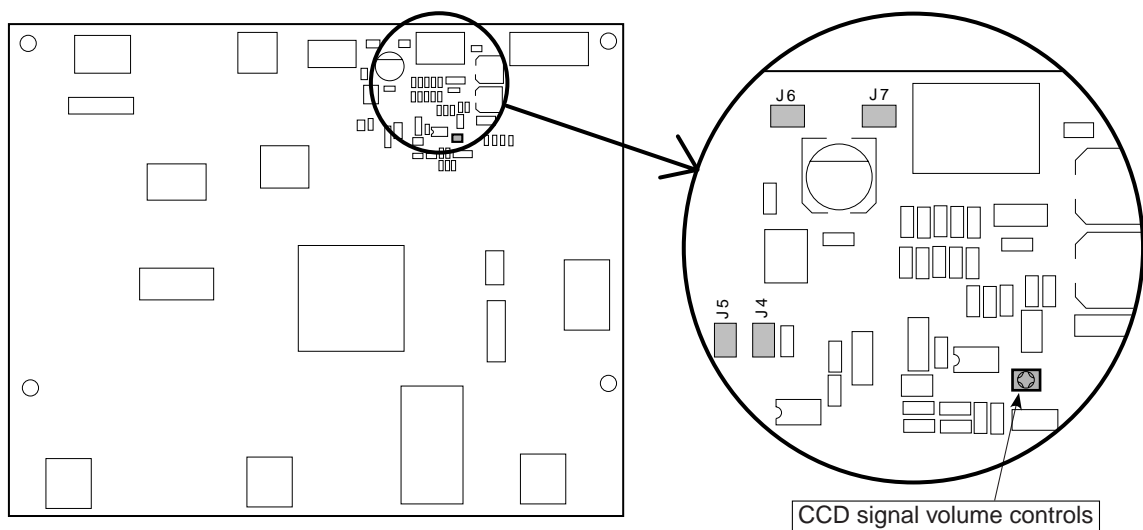

Fig. 1 Main Board Assy
- 2) Connect the probe of an oscilloscope to the Main Board Assy. (See Figure 1.)
When a waveform is saturated, turn the volume control shown in Figure 1 counterclockwise and adjust the waveform to the position where it is not saturated.